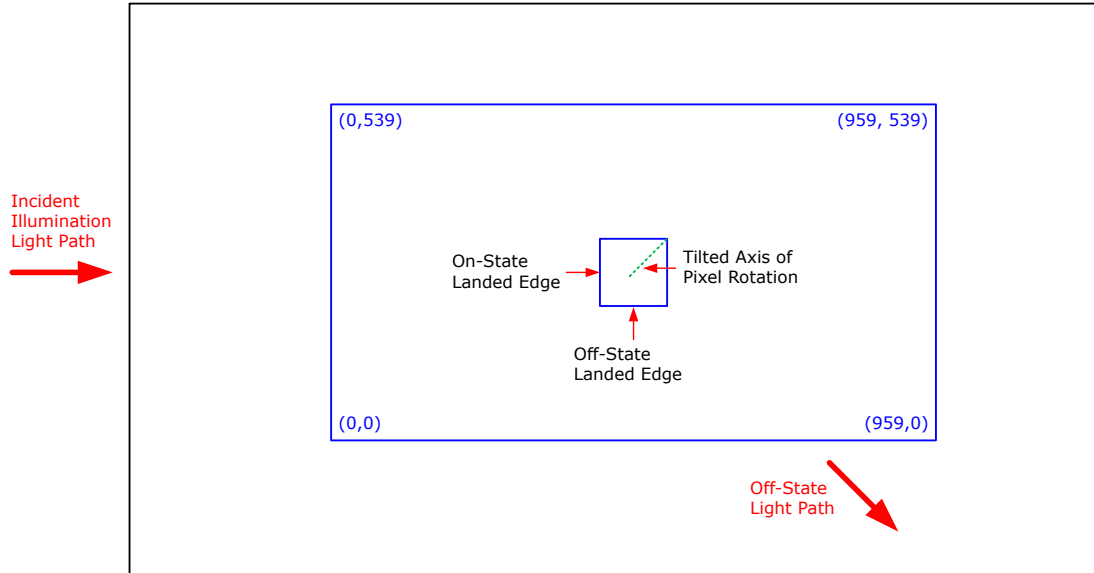

图 5-17. Landed Pixel Orientation and Tilt
- (1) Measured relative to the plane formed by the overall micromirror array.
- (2) Additional variation exists between the micromirror array and the package datums.
- (3) Represents the landed tilt angle variation relative to the nominal landed tilt angle.
- (4) Represents the variation that can occur between any two individual micromirrors, located on the same device or located on different devices.
- (5) For some applications, it is critical to account for the micromirror tilt angle variation in the overall system optical design. With some system optical designs, the micromirror tilt angle variation within a device may result in perceivable non-uniformities in the light field reflected from the micromirror array. With some system optical designs, the micromirror tilt angle variation between devices may result in colorimetry variations, system efficiency variations or system contrast variations.
- (6) When the micromirror array is landed (not parked), the tilt direction of each individual micromirror is dictated by the binary contents of the CMOS memory cell associated with each individual micromirror. A binary value of 1 results in a micromirror landing in the ON state direction. A binary value of 0 results in a micromirror landing in the OFF state direction. See 图 5-17.
- (7) Micromirror tilt direction is measured as in a typical polar coordinate system: Measuring counter-clockwise from a 0° reference which is aligned with the +X Cartesian axis.
- (8) The time required for a micromirror to nominally transition from one landed state to the opposite landed state.
- (9) The minimum time between successive transitions of a micromirror
- (10) Conditions of Acceptance: All DMD image quality returns will be evaluated using the following projected image test conditions: